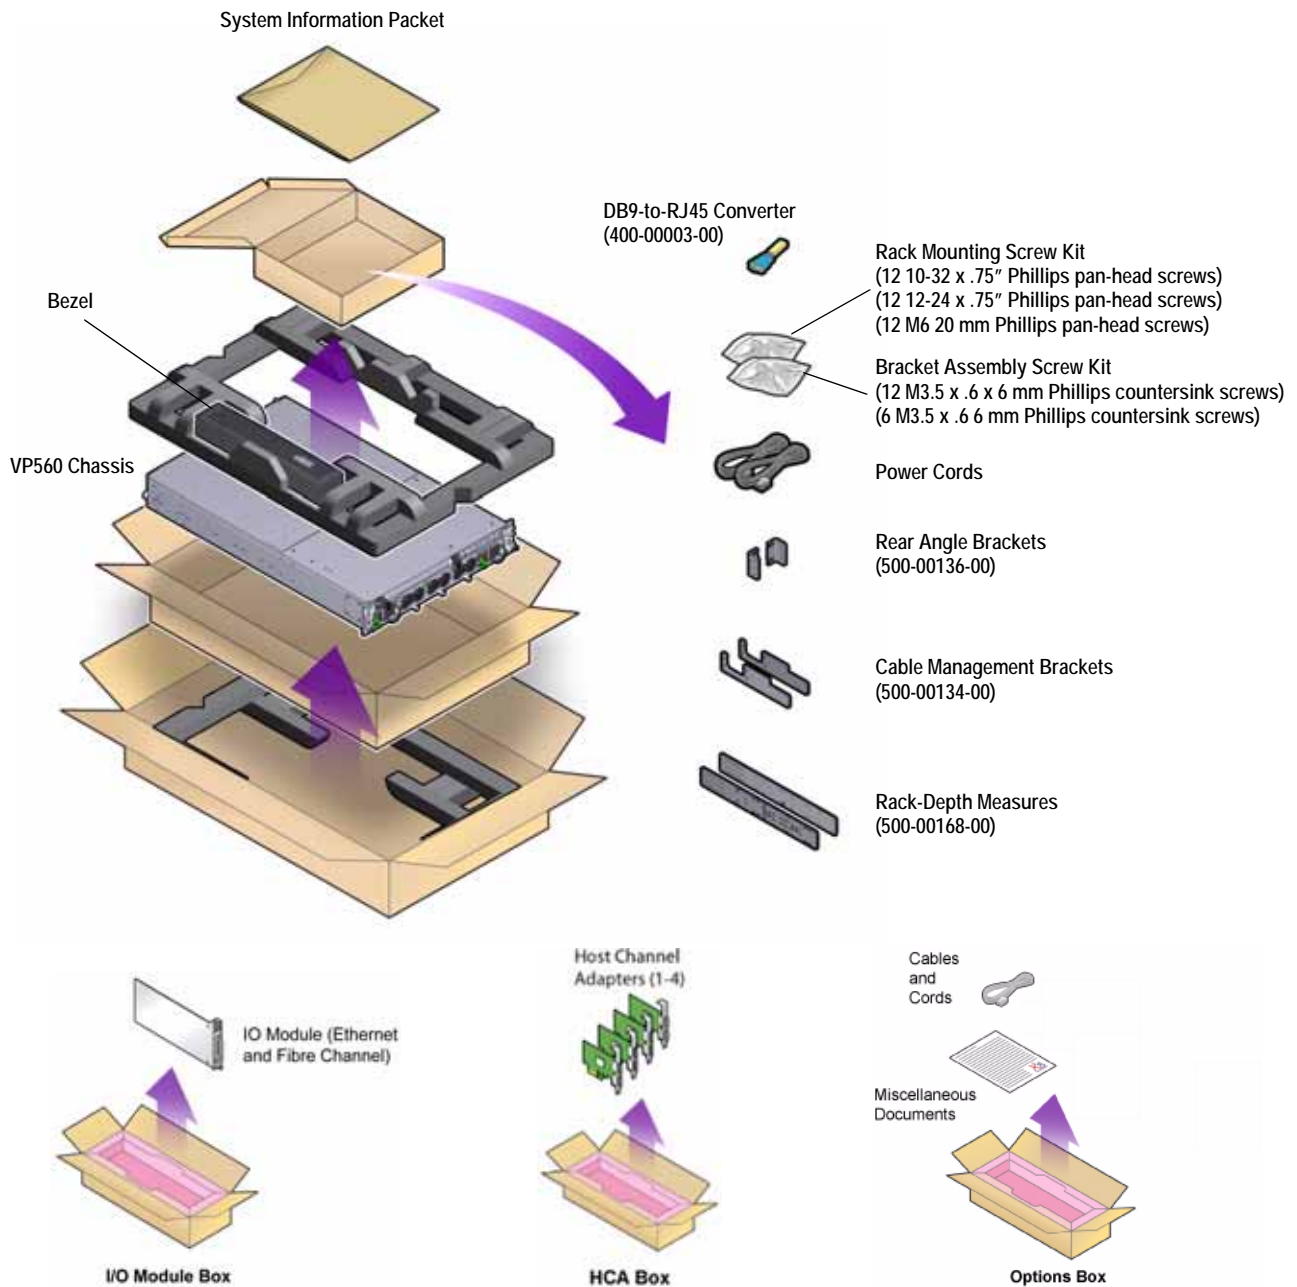

Figure 2 Unpacking Shipping Containers and Examining Contents
Step 2 Open the containers and verify their contents against the illustration in Figure 2.